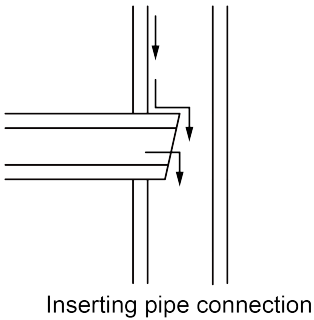

Fig 4.3.2.7
- No.1: Connection of drainage pipe joints (Fig 4.3.2.5).